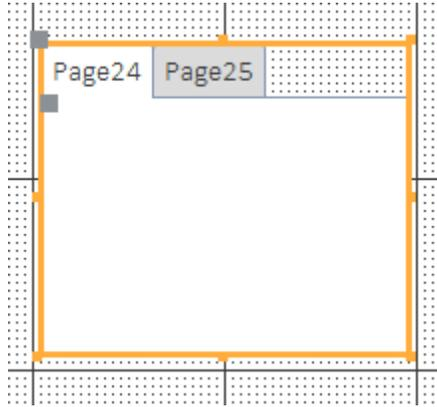

Figure 38: New Tab Control Created on the *Vehicle* Form
1. **Create a Tab Control:** Select the **Tab Control** tool  from the Controls group of the **Design** ribbon and drag it to the right of the *Vehicle* form fields (Figure 38). Disregard the page numbers on the tabs since you will be modifying them later.